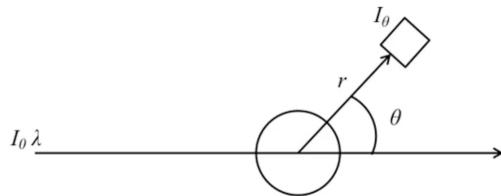

Figure 3.20: Light scattering geometry.
- All variables here are the same as in Figure 3.20.